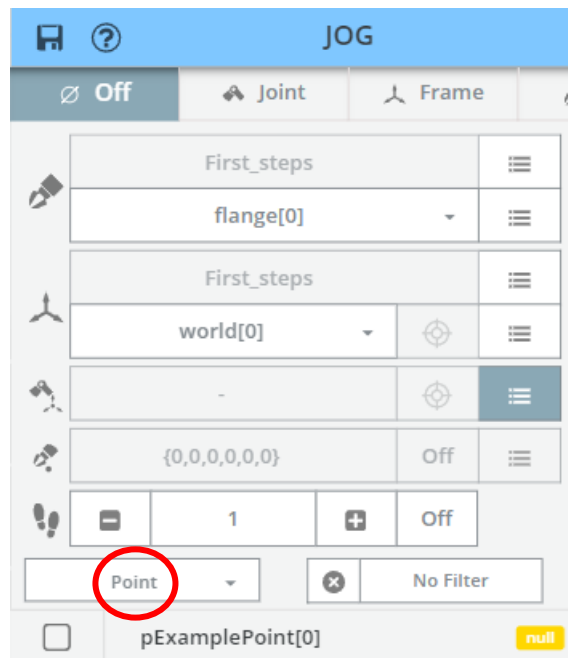

Figure 23: Display of the **point** variables (`pExamplePoint` in the present case) in the **JOG** menu.
- or by pressing the **Line** button , which appears at top right of the window shown in the figure 23, so that the TCP joins pExamplePoint *point* in a **straight line**. Note that the calculation of the movement is done in Cartesian space, so the movement is not always possible!
Go to the JOG menu to view the Cartesian variables of the First\_steps application, as described in 3.2, resulting in the page shown in the figure below (identical to figure 23):